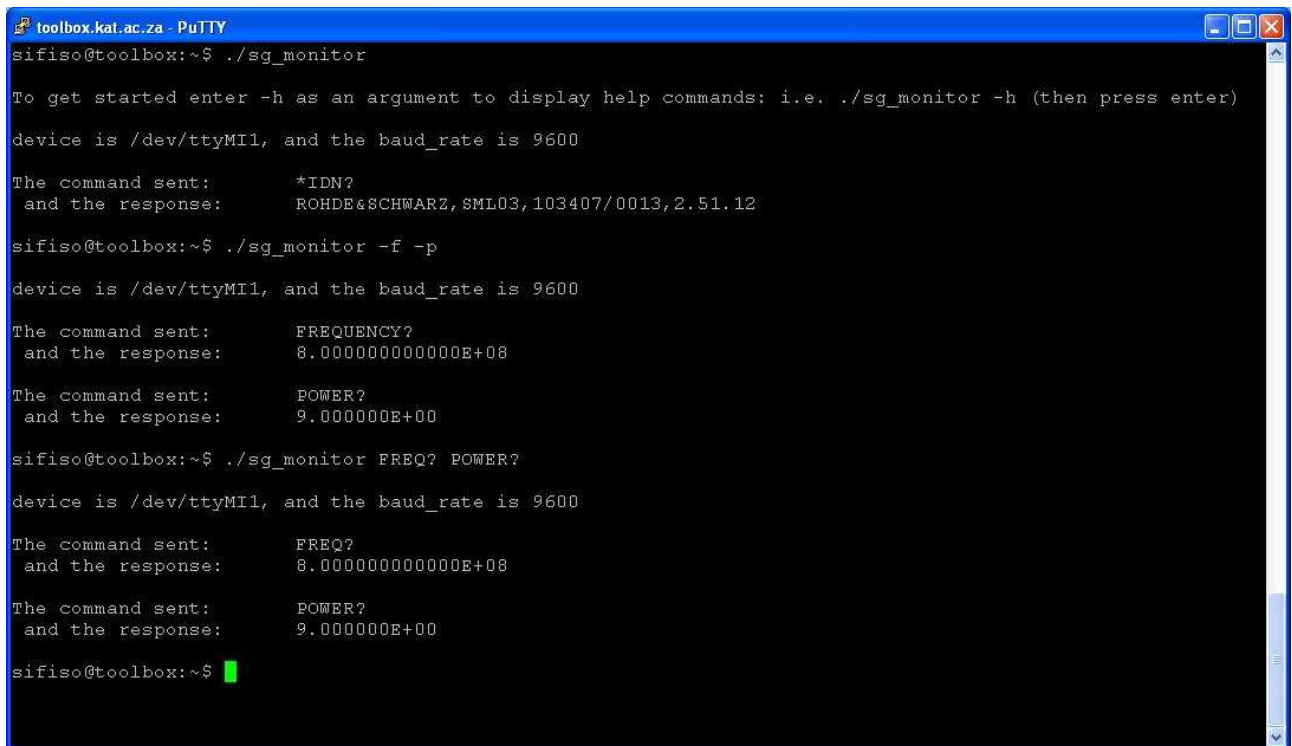

Figure 2: Running Application on a toolbox machine
The Figure 2 shows the sample taken while running the application on the toolbox machine through Putty application. For more details the user should type `-h` as an arguments and it will display information about how to use this application. The manual page has been created for this application and it saved under directory `man1`. The user is advised to copy the directory and paste it in the working directory, then when the user type `man sg_monitor`, the manual page will be printed on the window.
- **`./sg_monitor -s`** - this is not shown in the Figure 2 but it is defined in the help manual. This request the RF value, Power, RF output status, Status register and if the error is detected then the error message is requested.